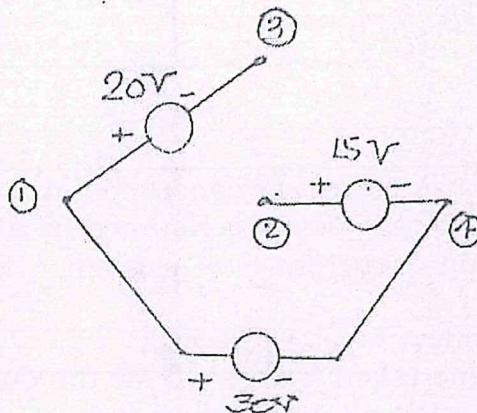

Fig. 1.1
- 1 1.1 Refer to Fig. 1.1 and find the voltages  $V_{12}$ ,  $V_{23}$  and  $V_{31}$ .